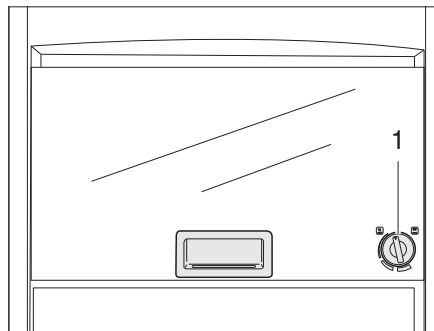

Fig. 315 Gas oven (Dometic)
- Gently press the control knob (Fig. 315,1) and turn left to any position.
- Turn the control knob (Fig. 315,1) to "O". The flame fades.